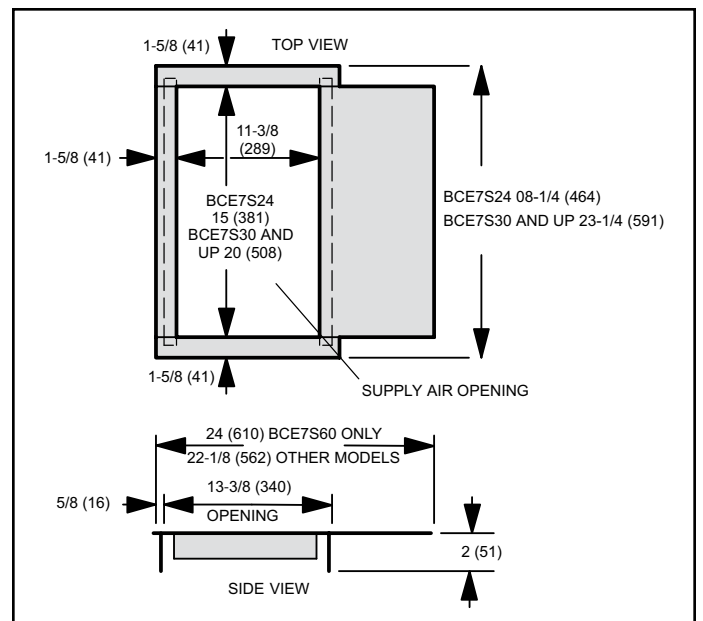

Figure 10. Downflow Combustible Base Dimensions - in. (mm)
- Cut an opening appropriately sized for combustible base. Base dimensions are illustrated in Figure 10. After opening has been cut, set the additive base into opening. Connect outlet air plenum to the additive base. Set the unit on the additive base so flanges of the unit drop into the base opening and seal against the insulation strips. The unit is now locked in place. Install return air plenum and secure with sheet metal screws.